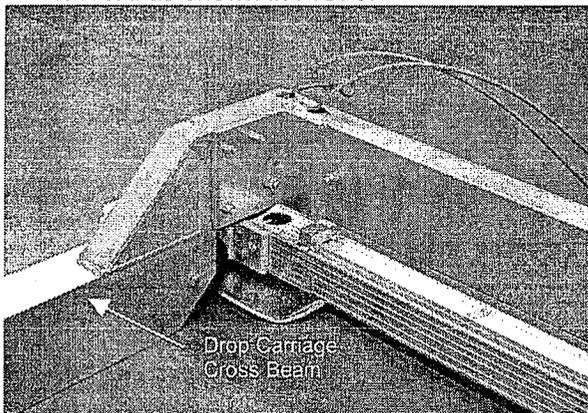

FIG. 6
Drop Carriage Cross Beams for shallow water depth installations. See FIG. 6.
The installation of either cross beam style is the same except for the number of bolts used and their mounting hole positions. See FIG. 6 and 7.
1. Review FIGS. 6 & 7 until you understand the bolt placement before proceeding onto the next step.
Note: Side carriage tube and carriage cross beam should be level with each other (See FIG. 6 and 7).
8. Install 2 or 3- 3/8" hex bolts and nuts as per FIG. 6 and 7.